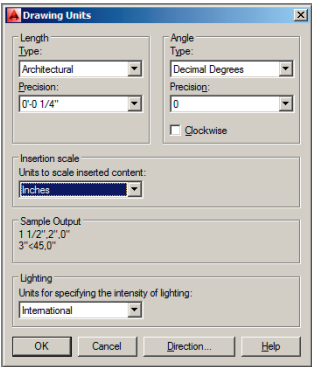

FIGURE 14.6 Setting architectural drawing units
- 4. Type **UN** (for Units), and press Enter. Choose Architectural units (or Decimal units in metric) with a precision of 1/4" (metric users choose a precision of 0.0). Set Units To Scale Inserted Content under the Insertion Scale area to Inches (or Centimeters in metric) (see Figure 14.6). Click OK.